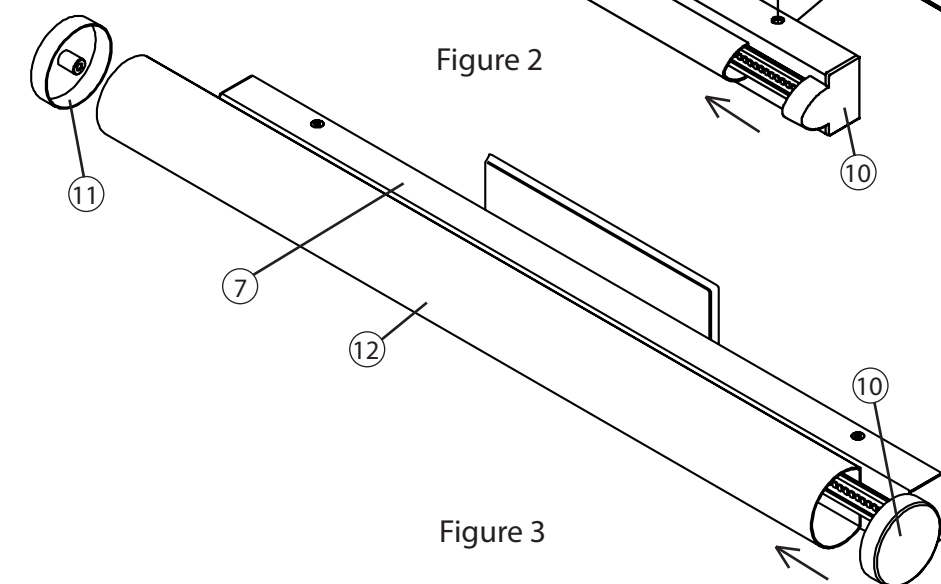

Figure 3
2. Unscrew one of the round Endcaps (11) and remove it from the Diffuser (12). See Fig. 3
3. Remove the damaged Diffuser from the Housing (7) by sliding it off the Housing extrusion. See Fig. 3